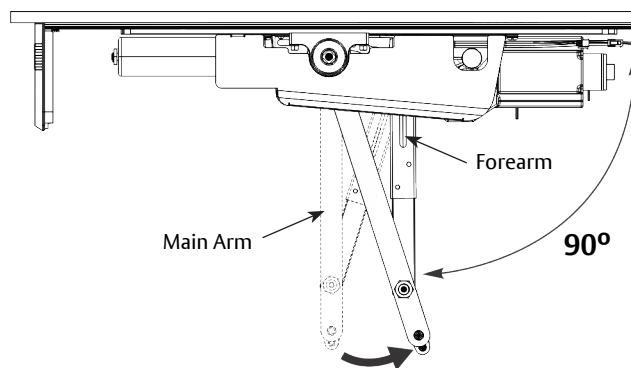

Figure 23 View from ceiling looking downward
- With door closed, rotate main arm away from hinge until forearm is perpendicular (90 degrees) with door. (Figure 23)